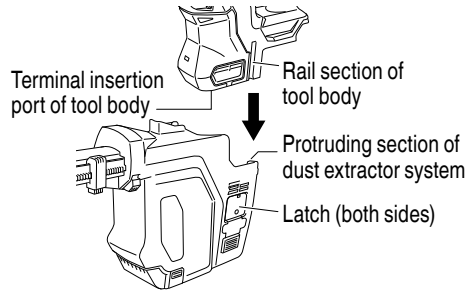

Fig. 3
- (1) Attaching the dust extractor system (Fig. 3)